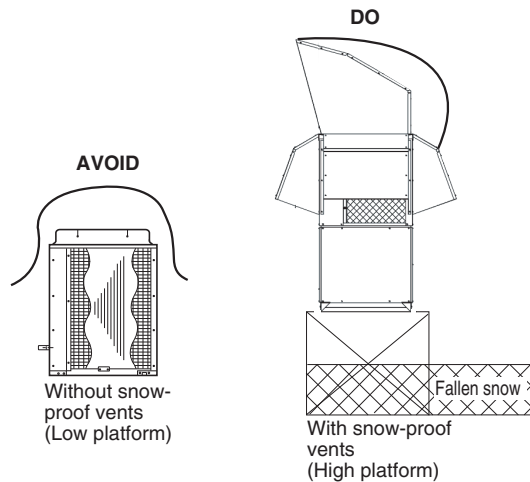

Fig. 2-5
In regions with heavy snowfall, the outdoor unit should be provided with a solid, raised platform and snow-proof vents. (Fig. 2-5)
- a) The platform should be higher than the max. snow depth. (Fig. 2-5)